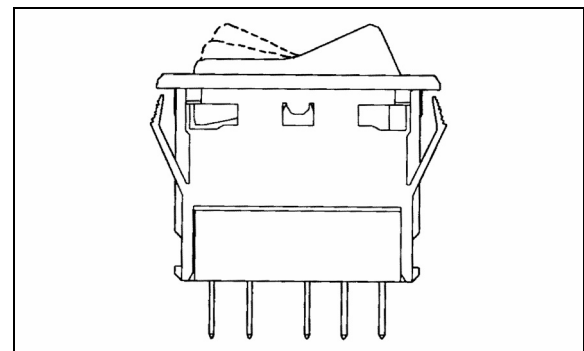

FIGURE 41: SWITCH
3. To install a new switch, reverse the procedure (Fig. 41).